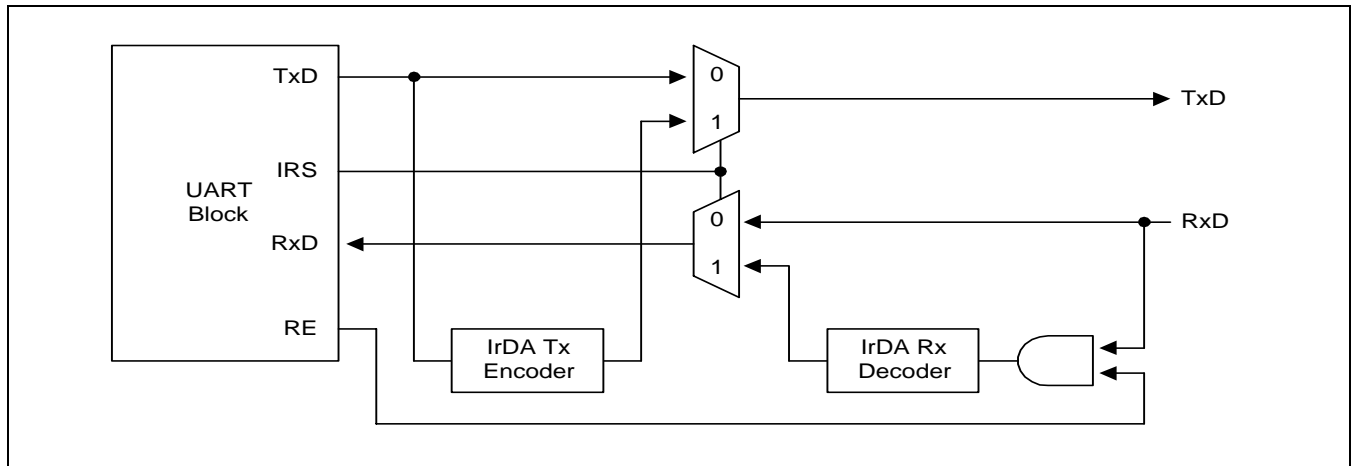

Figure 11-4. IrDA Function Block Diagram
The S3C24A0A UART block supports infrared (IR) transmission and reception, which can be selected by setting the infrared-mode bit in the UART line control register (ULCONn). The implementation of the mode is shown in Figure 11-4.